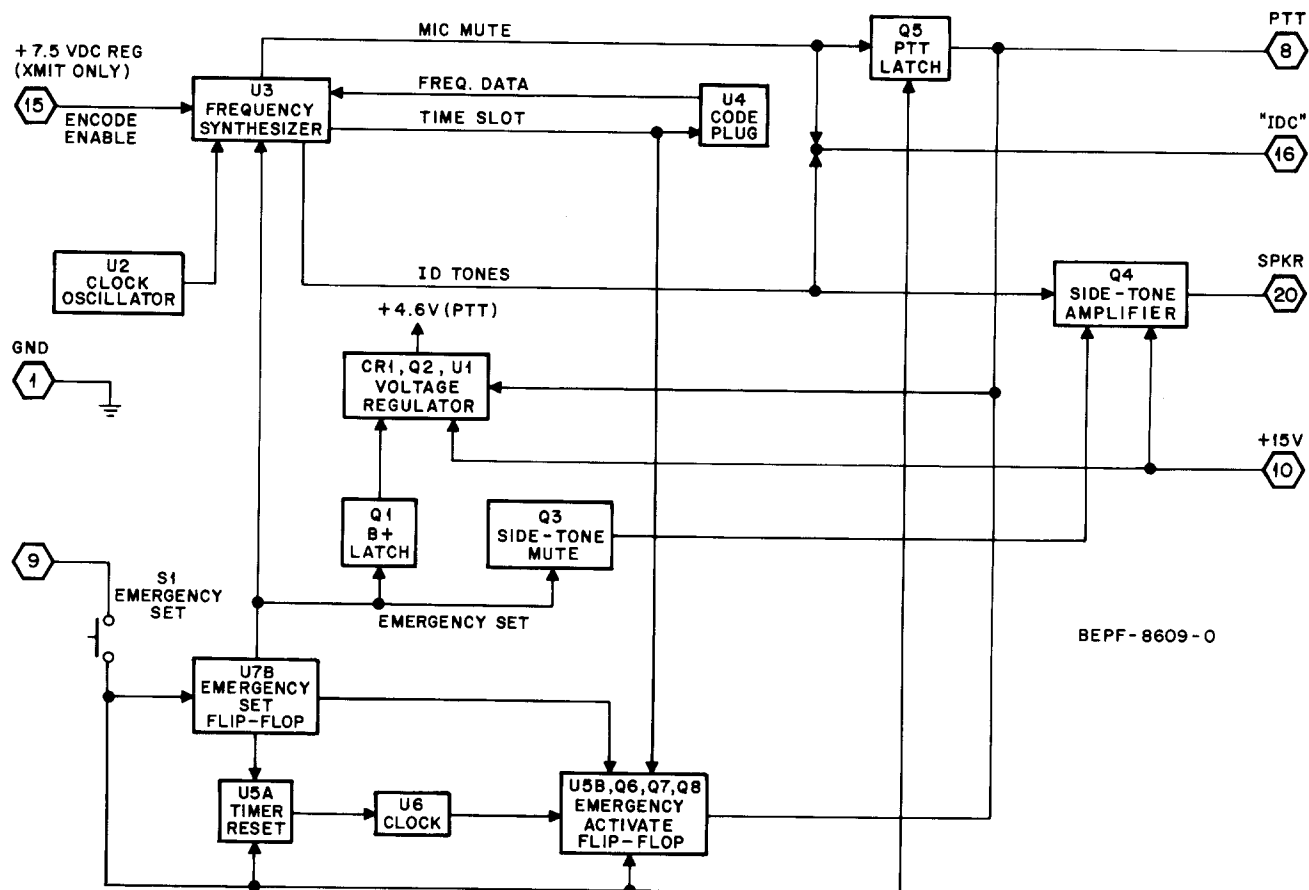

Figure 18. Unit ID and Emergency Call Functional Block Diagram
When a radio contains this option, additional circuits are added as shown in functional diagram Figure 18, which also illustrates the electrical interconnections between the Unit Identification (ID) circuits and a typical radio. The interconnection points are identified by a hexagon and a number. This hexagon symbol and number appears on all schematic diagrams and applicable circuit board details.